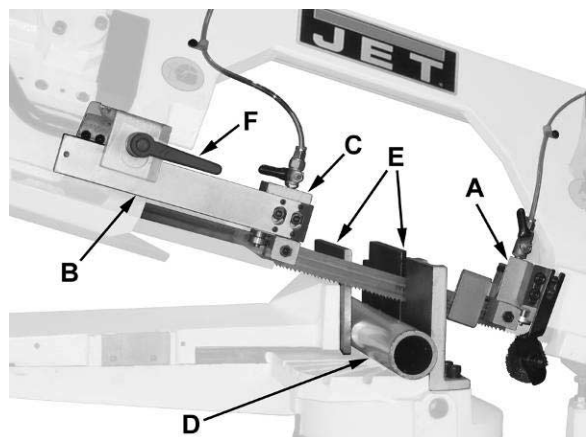

Figure 9
Refer to Figure 9. The J-9225 Bandsaw has two blade guide assemblies; one is stationary (A) and mounted to the body of the saw head. The other, consisting of a *blade guide support* or *bracket* (B) and *blade guide* (C), is adjustable.